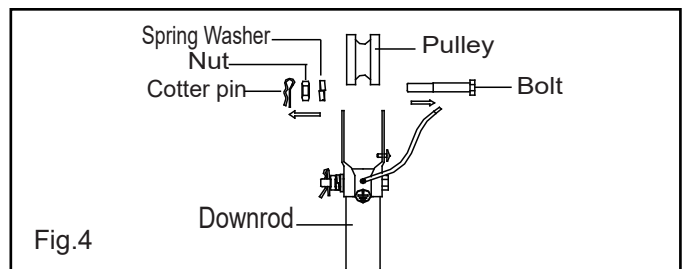

Fig.4
3) "U" Hook mounted, Remove the bolt, stop pin, nut, washer and rubber pulley from the downrod. (Fig.4)